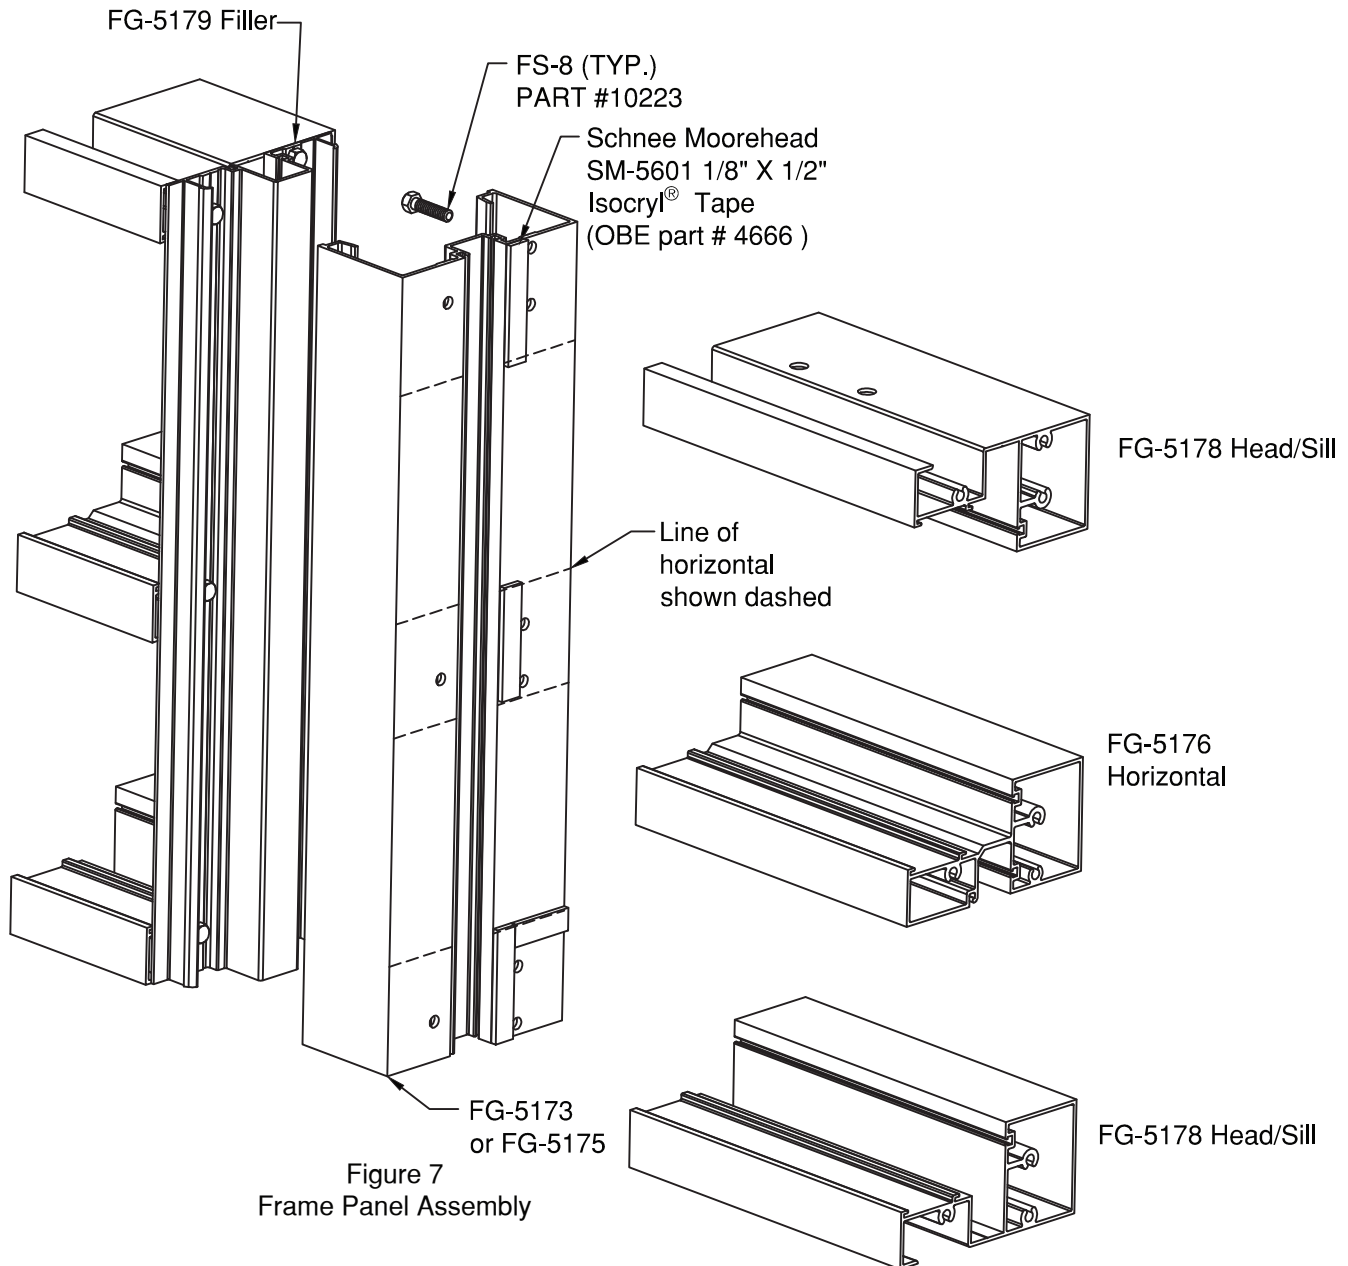

Figure 7
- 2.2.1 Clean framing members at locations where Isocryl® Tape is noted to be attached. See Figure 7, at tape intersection there should be no gaps.
Note: also install FG-5185 at vertical , if it was not installed prior to attaching horizontals see **Figure 7 on Page 12** .